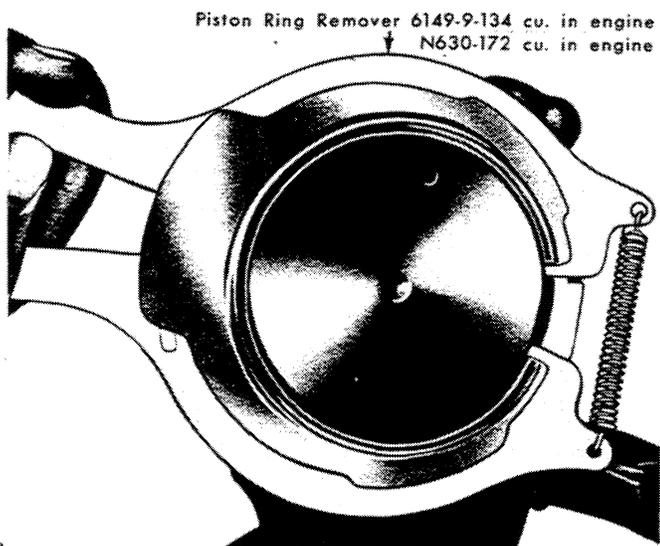

Figure 24
5. Remove the piston rings from the pistons with a 3-5/8" Piston Ring Expander, Figure 24.
3. Install the rings on the pistons in accordance with the instructions contained in the piston ring carton. Use a 3-5/8" Piston Ring Expander to prevent distorting or breaking the rings, Figure 24.